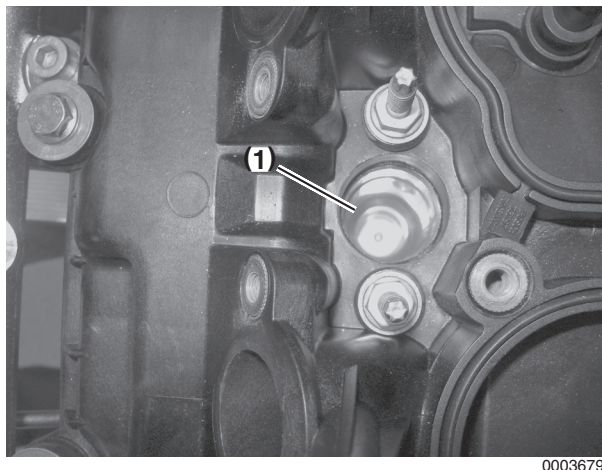

Figure 6-10
2. Ensure the injector seal has been removed from the bottom of the injector cavity (**Figure 6-10, (1)**).